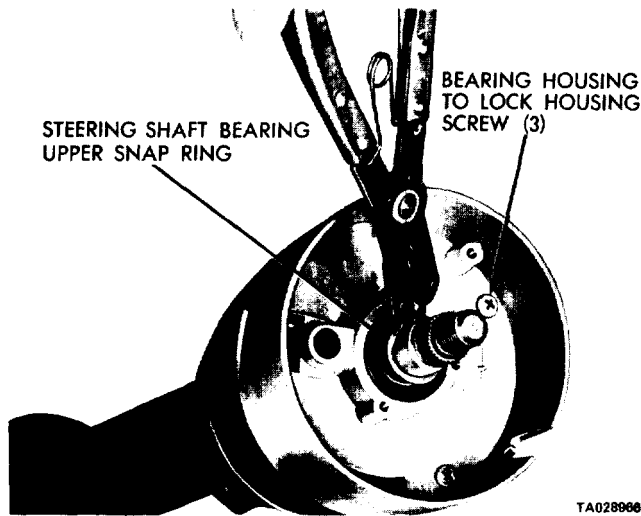

Figure 21-10. Removing Steering Shaft Bearing Upper Snap Ring.
(4) Remove the two retaining screws and lift the lamp assembly out of the way.
(5) Remove the snap ring from the upper end of the steering shaft (figure 21-10).